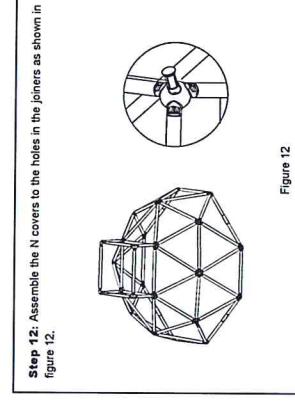

Figure 12
**Step 12:** Assemble the N covers to the holes in the joiners as shown in figure 12.